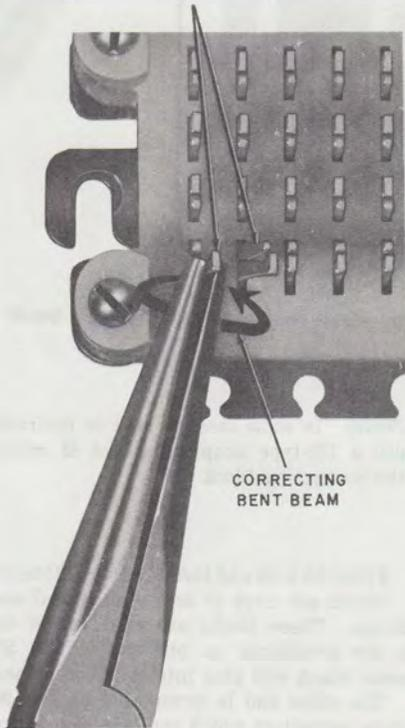

Fig. 19—Straightening Terminal Beam
6.02 Terminals which have been bent or misaligned, as shown in Fig. 18, may be corrected by using long-nose pliers (Fig. 19). The bent beam should be moved until it is aligned with its mate or with other terminals of the same row. Care should be taken not to move beams or terminals in a direction which would spring or open the contact surfaces between the two beams.